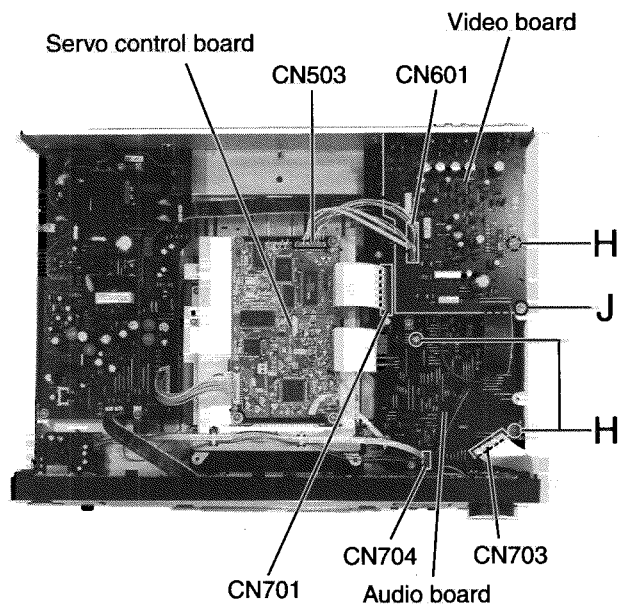

Fig.10
■ Removing the Video Board and Audio Board (See Fig.10)